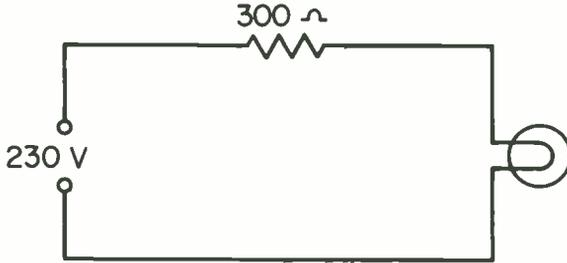

Fig. 55
2. (a) See Fig. 55; (b) 138 V; (c) 92 V; (d) burn dimly . . . The bulb will burn dimly because the voltage across it is less than 115 V.